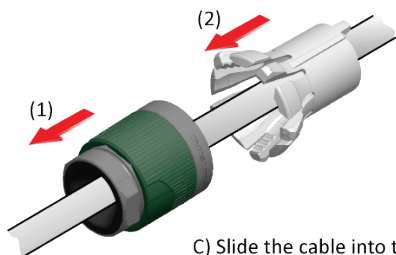

**FIG.11**
- FIG.10 and FIG.11 show the possible horizontal swivel combinations: FIG.10 is for the speaker mounted vertically or FIG.11 for speaker mounted horizontally.